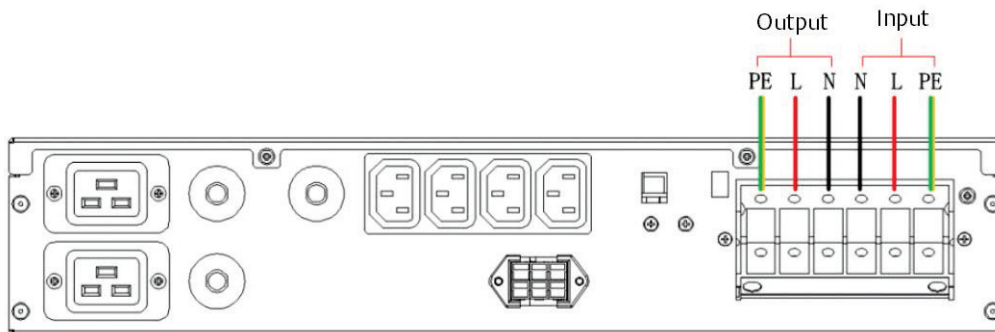

Figure 2-9 I/O cable connection of the single POD
For the single POD, connect the mains input cables L, N, PE to the corresponding terminals on the I/O terminal block of the POD respectively, as shown in Figure 2-9.
1. Connect the output cables L, N, PE to the corresponding terminals on the I/O terminal block of the POD respectively, as shown in Figure 2-9.
The I/O cable connection of the single POD is shown in Figure 2-9.